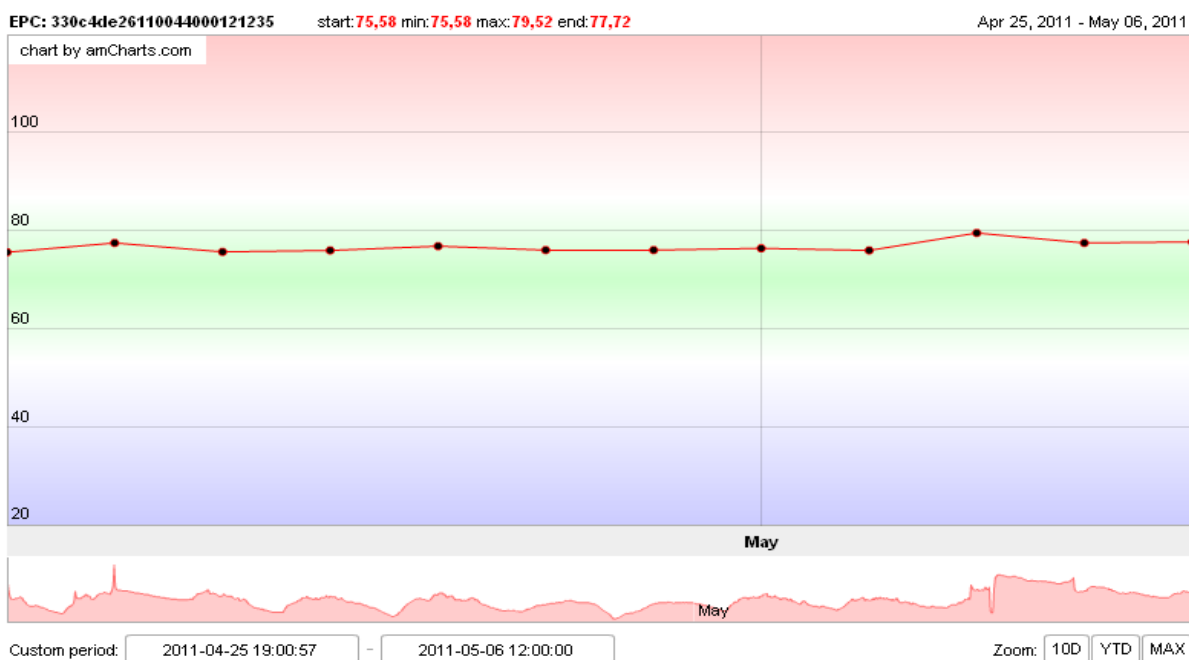

Figure B-2.7 Temperature Chart
14. It will also show a graph of all temperature readings with time. (Figure B-2.7)